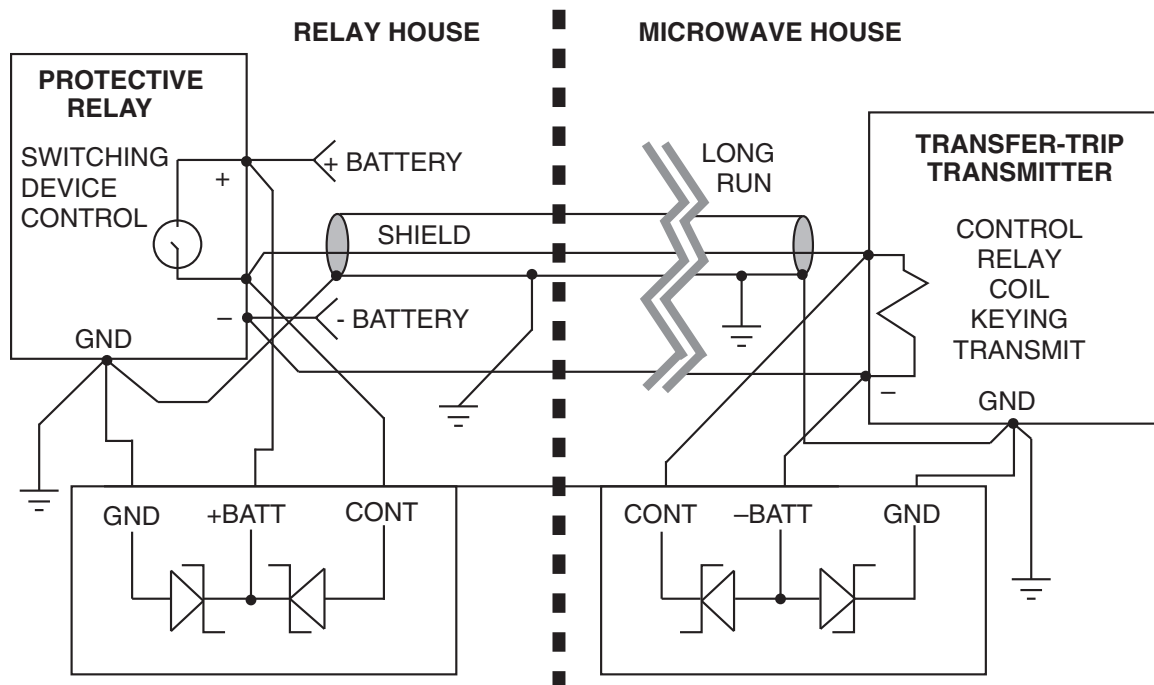

Figure 4 Control Lead Suppressor Scheme
5. DC control leads usually connect a switching device, such as a relay contact or transistor, to an operated device, such as a relay coil. If the control lead runs some distance, transient surge voltages could damage both switching and operated devices. Figure 4 illustrates the use of protective components in a typical application.